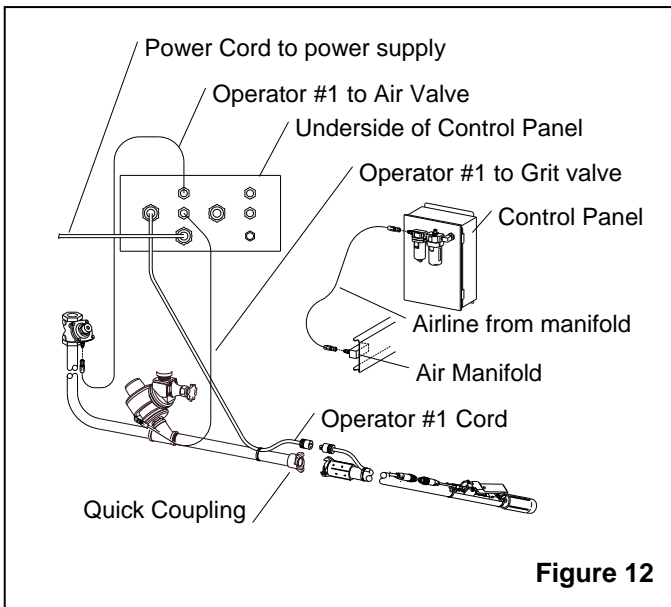

Figure 12
2.4.3 Install Blast Hose and Control Cord to Blast Machine. Refer to Figure 12